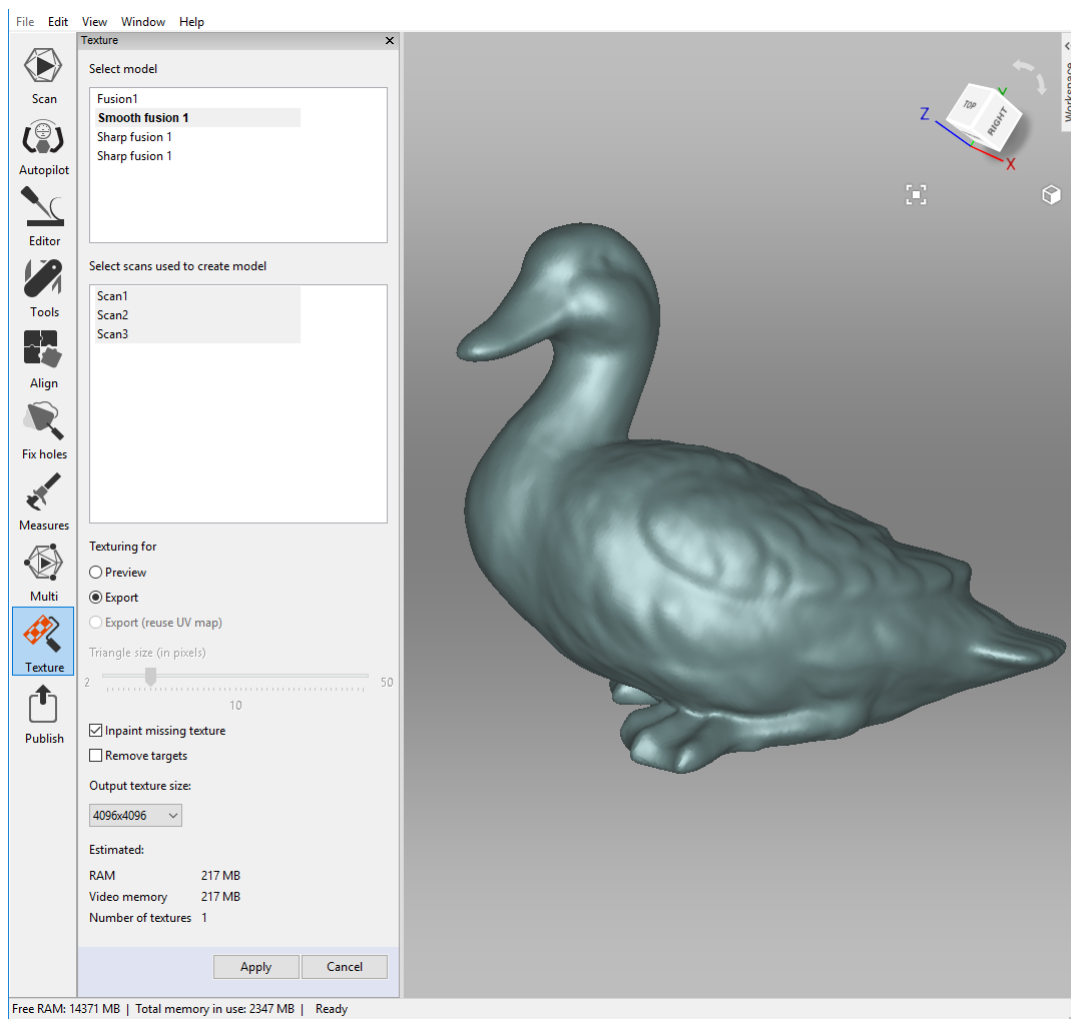

Figure 95: Choosing a texture-application method and adjusting its parameters.
2. Choose a model from the first list (see Figure 95); Artec Studio will apply the textures to this model